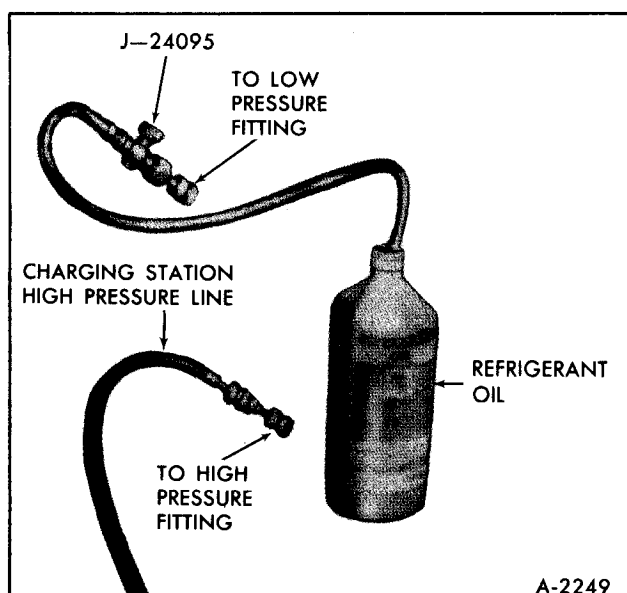

Figure 25—Adding Refrigeration Oil
a. Disconnect the Charging Station low pressure line. Install Tool J-24095 (with valve closed) onto the system low pressure fitting. Insert pickup tube into graduated container of clean refrigerant oil (figure 25).